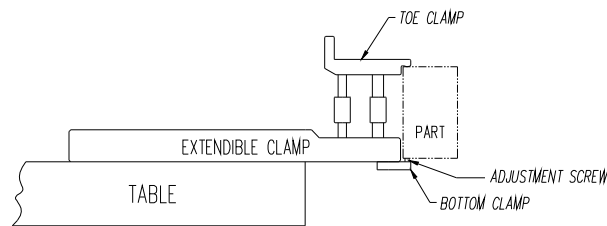

Figure 5
STEP 6. If the work piece being held by the extendible toe clamp requires an adjustment in height, adjustment screws on the bottom of the plate can be adjusted so as to raise the part in the Z-axis as shown in Fig. 5.